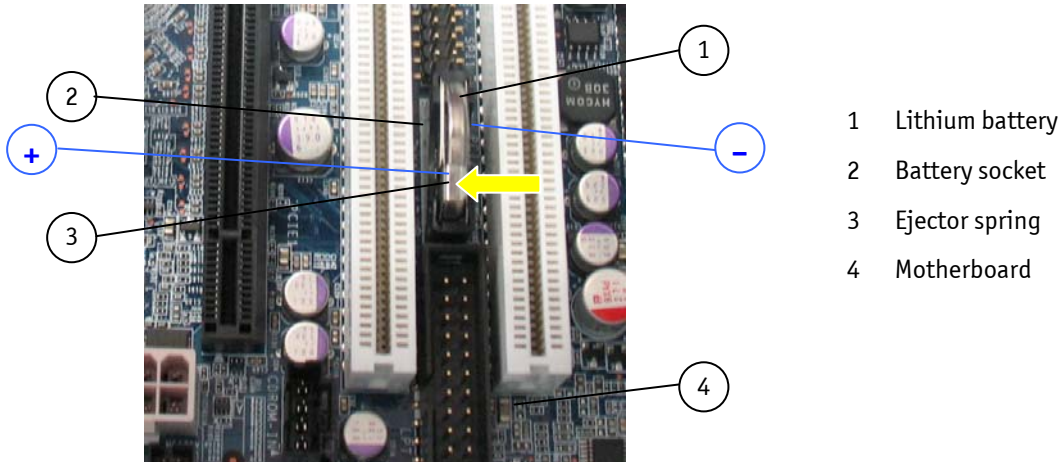

Fig. 44: Location of the Lithium Battery
5. Pay attention to the polarity of the battery; refer to Fig. 44.